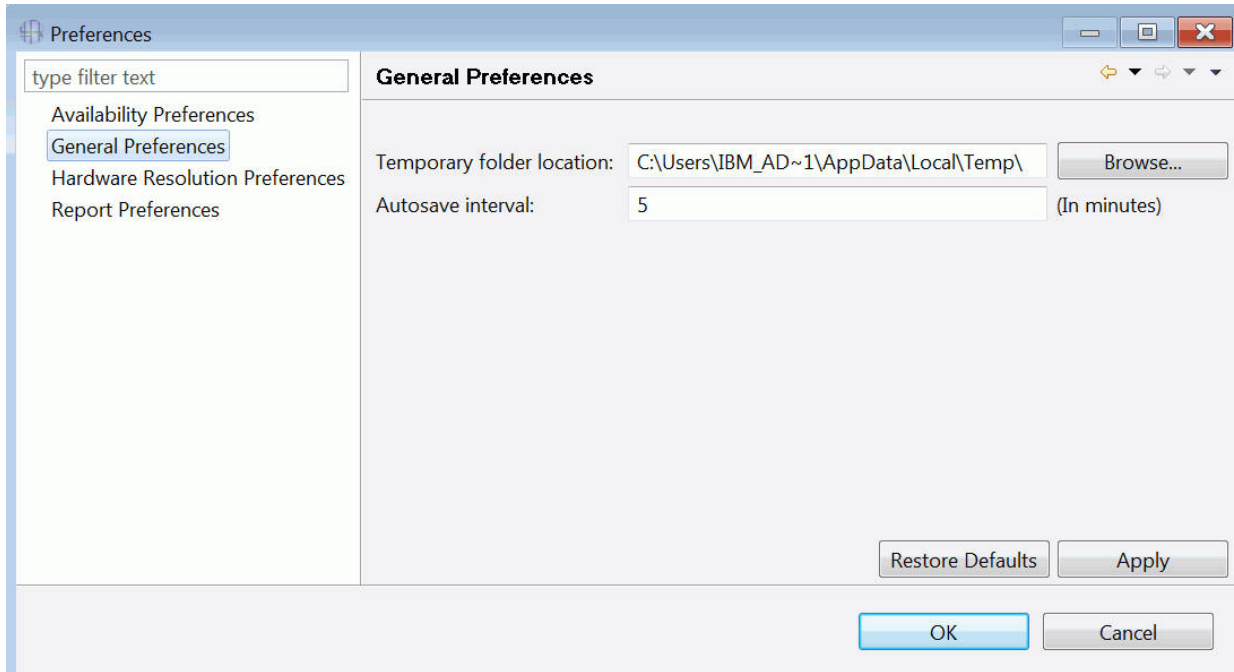

Figure 60. The General Preferences page of the Preferences window
1. Click **Window > Preferences**. The tool displays the Preferences window. Figure 60 on page 47 shows this page.